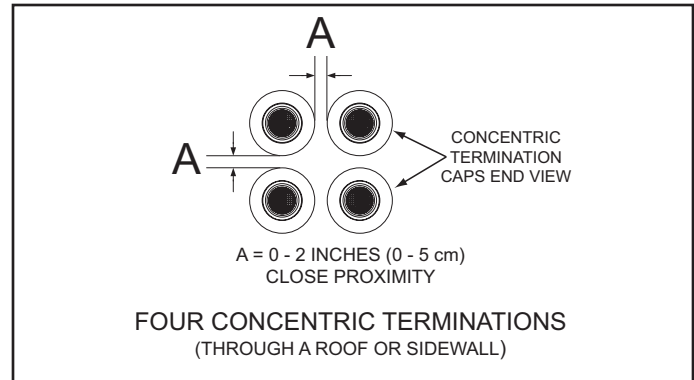
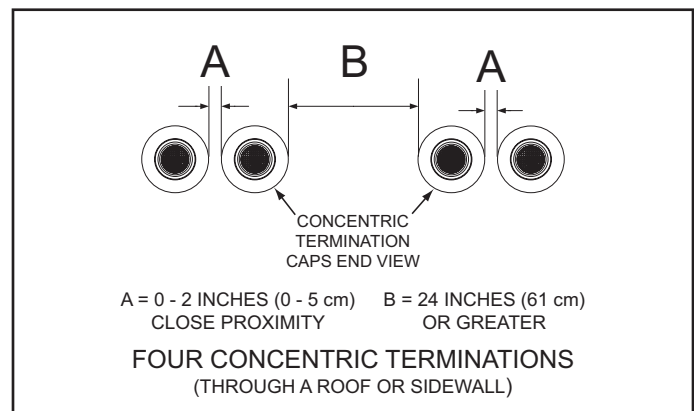
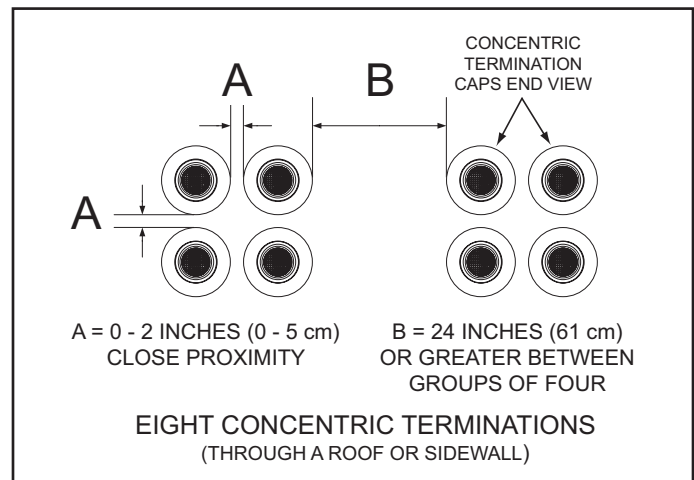
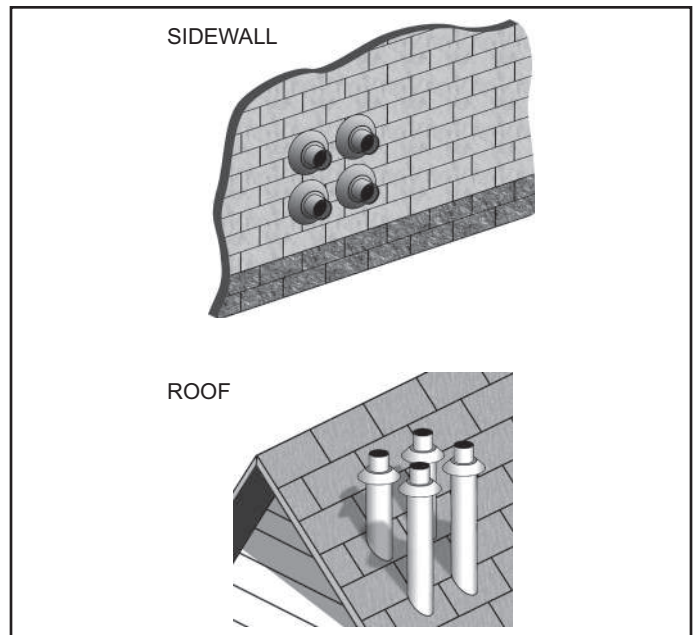

Figure 34
Figure 35
Figure 36
Figure 38
1. When installing four concentric terminations through a roof or through a sidewall in close proximity they may be arranged into stacked rows of two as shown in Figure 34 or lateral rows of two as shown in Figure 35.
2. Four is the maximum number of concentric terminations that may be installed in a group where all terminations are in close proximity as shown in Figure 34.
1. When installing multiple groups of concentric terminations through a roof or through a sidewall in close proximity they can be installed into stacked groups of four as shown in Figure 36. Lateral groups of four as shown in Figure 35 may be a more convenient installation arrangement for multiple groups depending on available space.
Four concentric terminations may be installed in close proximity as shown in Figure 38. See Figure 34 and Figure 35 on page 32 for detailed information on clearances and additional arrangement options.
Eight concentric terminations may be installed in two stacked groups of four, in close proximity, as shown in Figure 39. See Figure 36 on page 32 for detailed information on clearances.
Lateral groups of four as shown in Figure 35 on page 32 may be a more convenient installation arrangement for multiple groups depending on available space.